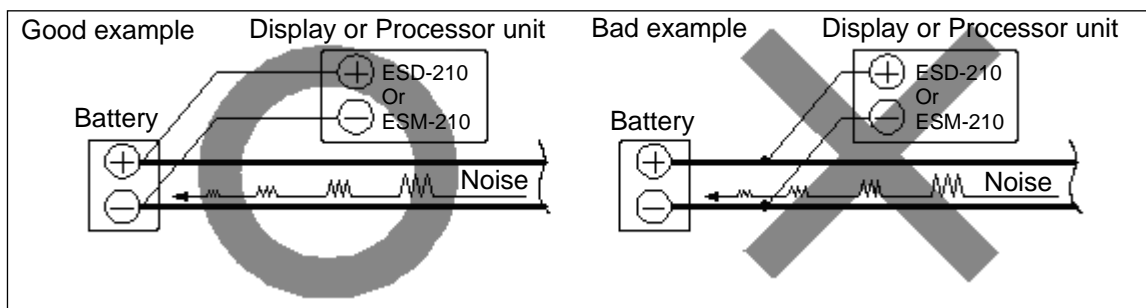

Fig. 1.1 CVS-705D/707D Connection of Power line
- (3) If you connect the power cable directly to the battery, interference from the other electronic equipment is expected to be less. (See Fig. 1.1)